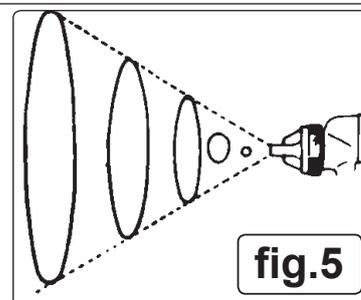

fig.5
- The spray pattern of the gun is variable from round to flat with all patterns in between. In normal operation, the wings on the nozzle are horizontal. See fig.5. This provides a vertical fan-shaped pattern which gives maximum uniform and even coverage when moving the gun back and forth, parallel to the work surface.